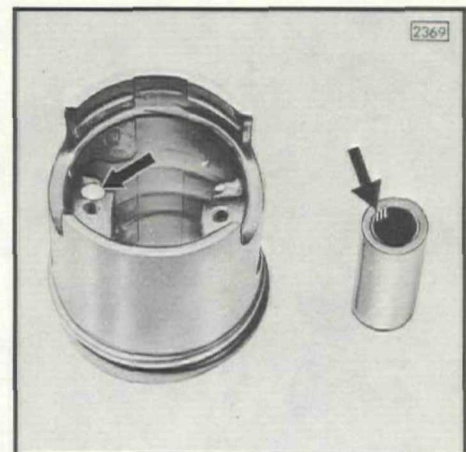

Fig. 11
– 2 or 3 dots on end of wrist pin (fig. 11).